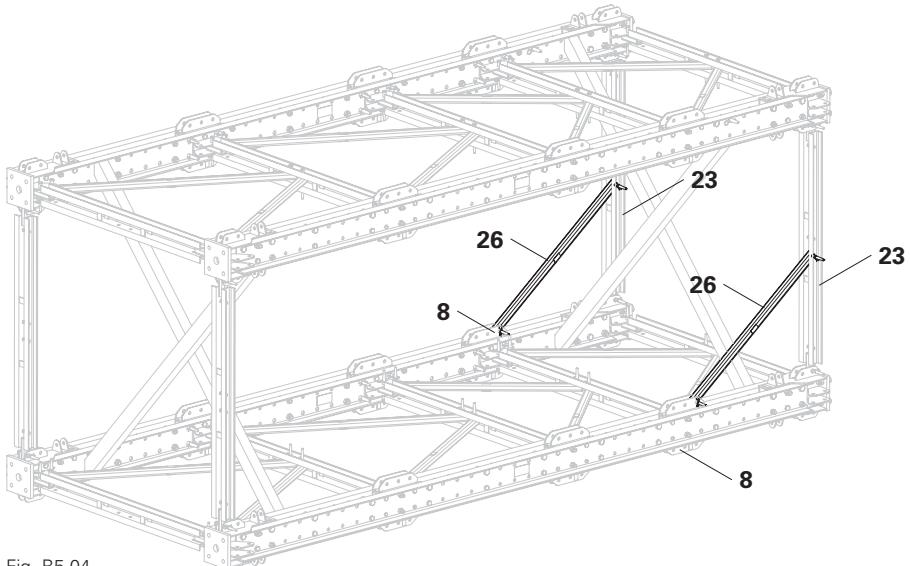

Fig. B5.04
1. On each side, insert 1x diagonal strut VST (26)* into the horizontal ledger VST 200 (23).
2. Connect the diagonal struts VST (26) to the bracing connector VST (8) and horizontal ledger VST 200 (23) using 1x fitting pin Ø 21 mm (9) each. (Fig. B5.04)